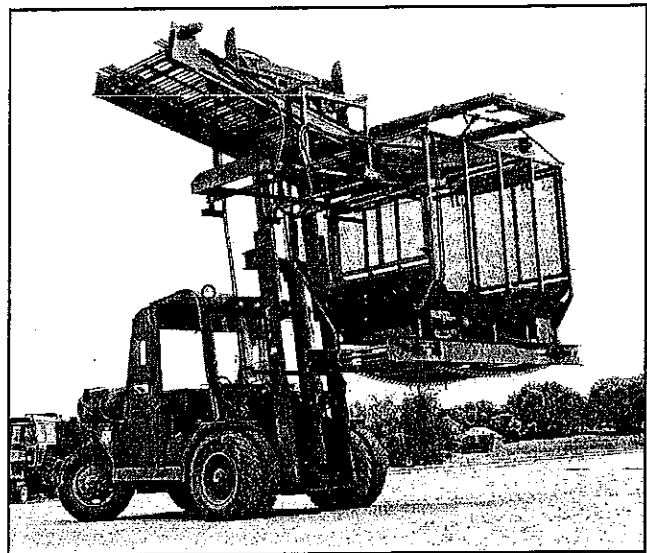

Figure 3.06: Lifting Tank Assembly.
Pick up tank assembly and set in place on frame (see Figure 3.06). For lifting, placing chain hooks in top tank tube ends works well. Use the six (6) 1/2" x 1-3/4" carriage bolts, six (6) 1/2" flat washers, six (6) 1/2" lock washers and six (6) 1/2" nuts provided to secure tank in place. *Slide tank as far rearward as possible and square up to frame.* Tighten hardware.